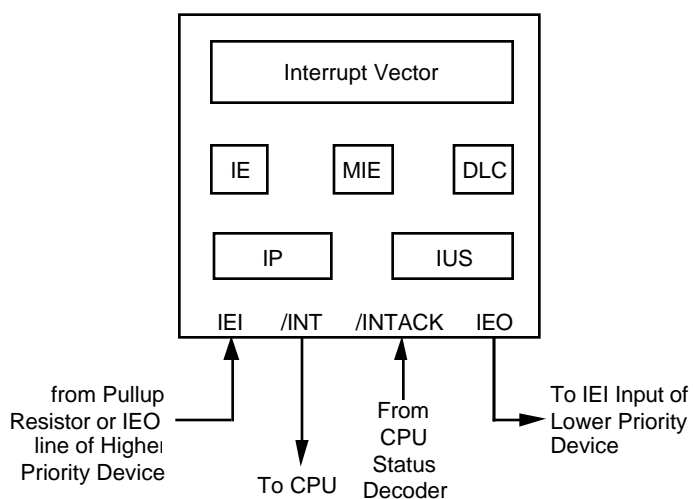

Figure 2-10. Peripheral Interrupt Structure
In addition to the MIE bit that enables or disables all SCC interrupts, each source of interrupt in the SCC has three control/status bits associated with it. They are the Interrupt Enable (IE), Interrupt Pending (IP), and Interrupt-Under-Service (IUS). Figure 2-10 shows the SCC interrupt structure.